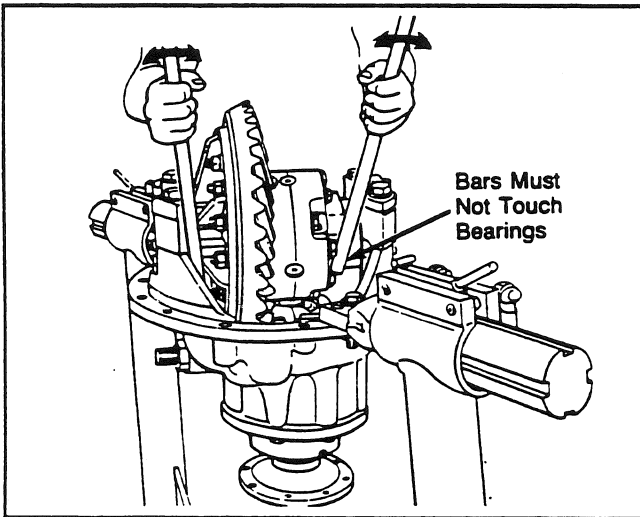

Fig. 68
- b) Use two pry bars installed between the differential case or ring gear and the carrier at places other than described in step a). The pry bars **must not** touch the differential bearings (see Fig. 68).